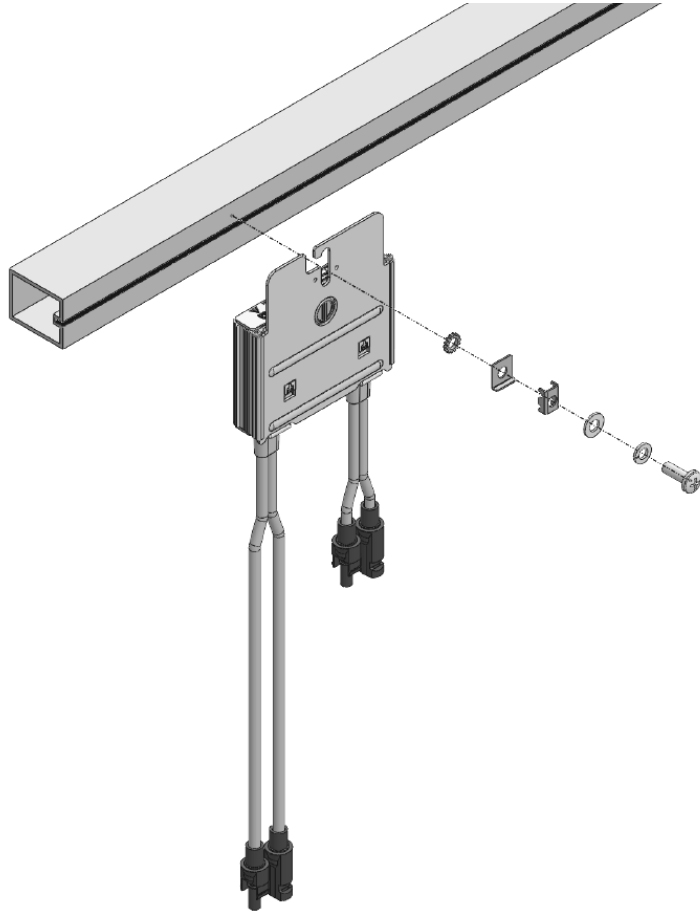

Figure 1: Grounding a power optimizer using the grounding terminal kit
1. When installing the power optimizer, attach a grounding terminal to each power optimizer (see Figure 1).